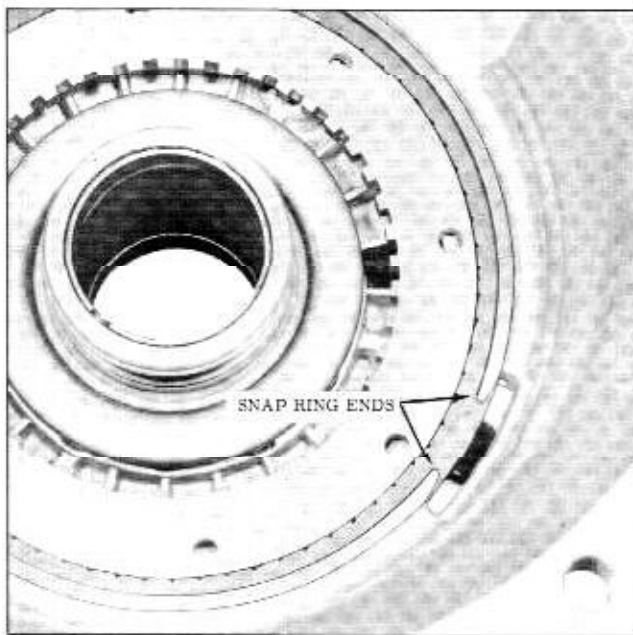

Fig. 3-103 Snap Ring Location
10. Install large reverse cone snap ring into snap ring groove in case. (Fig. 3-103)